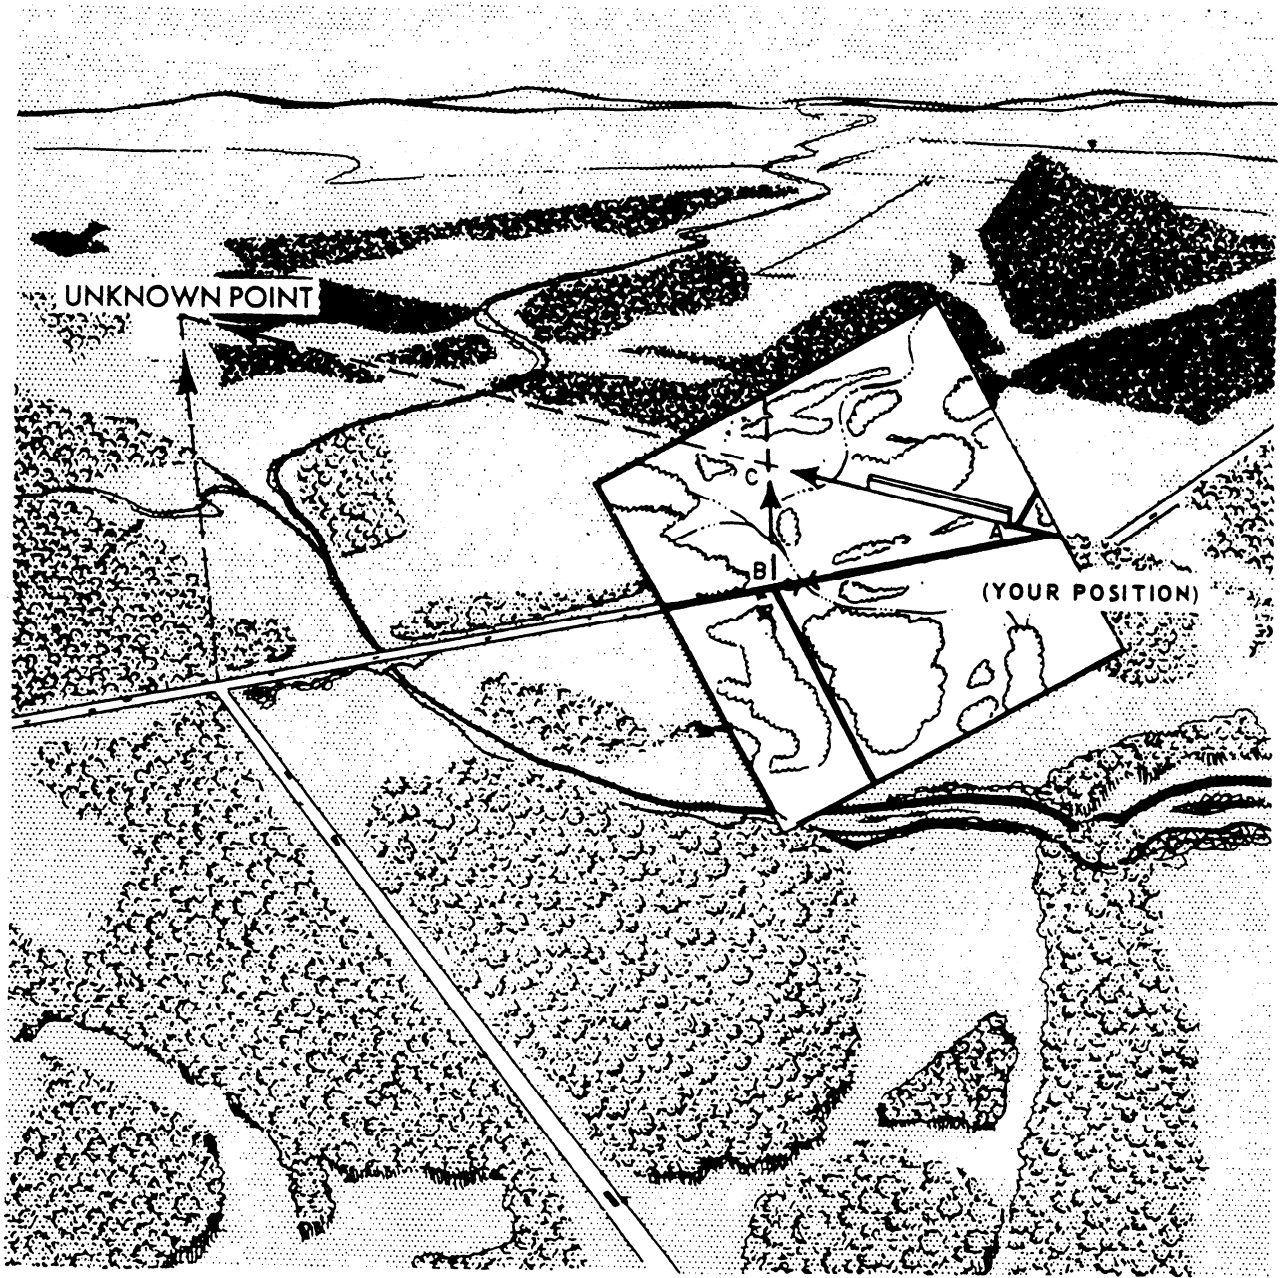

Figure 5-37.—Intersection without compass.
**STRAIGHTEDGE METHOD (WHEN NO COMPASS IS AVAILABLE).**— Study the following steps to locate an unknown point using the straightedge method of intersection. (See fig. 5-37.)